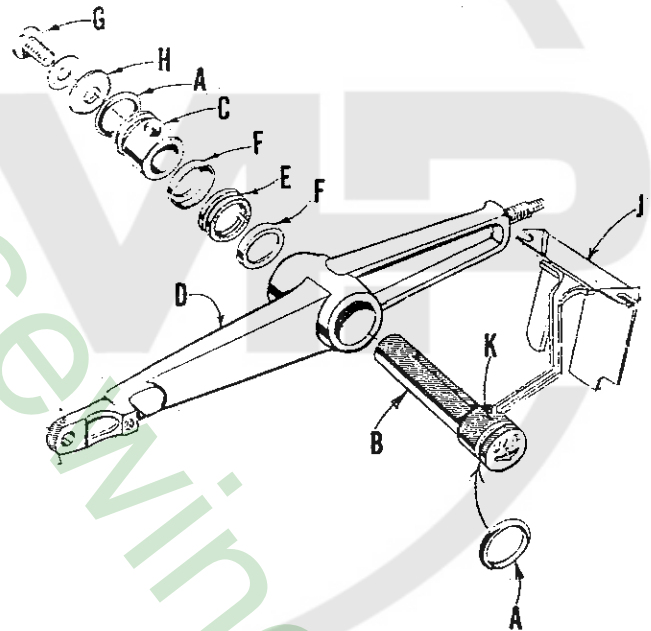

Fig. 22
Install "O" ring (A, Fig. 22) on the needle lever stud (B) and needle lever thrust collar (C). With the needle lever (D) in its proper position insert the needle lever stud (B) until the shoulder on the needle lever stud (B) contacts the needle lever (D). Making sure no bind exists in the needle bar link and secure with the front set screw in top of bed casting. Place the temper load ring (E) and compression cups (F) onto the needle lever stud (B) and push them through the opening. Then install the needle lever thrust collar (C) on the stud, being careful not to damage "O" ring on it. Tighten screw (G) to compress components until the securing washer (H) bottoms against the needle lever stud (B). Then secure the needle lever stud (B) in its proper position by tightening the rear set screw from on top of the casting.